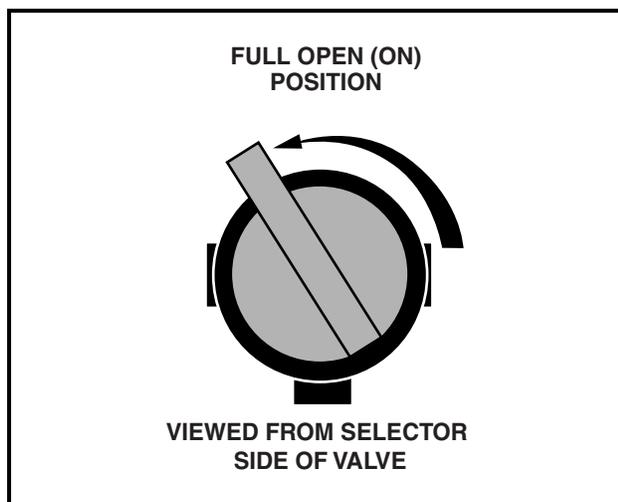
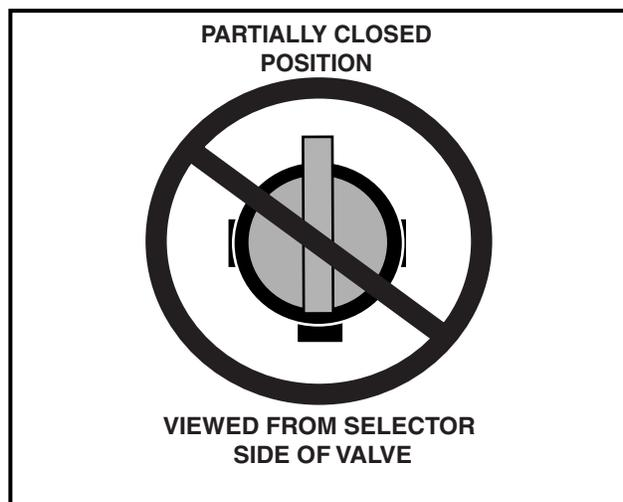

Figure 16 Fuel Shut-off Valve – Open Position
Figure 17 Fuel Shut-off Valve – Partially Closed Position
3. Completely open the fuel shut-off valve (**Figure 16**). Make sure the valve is fully open. A partially closed fuel shut-off valve (**Figure 17**) combined with the use of the choke can result in a fouled spark plug and engine failure.